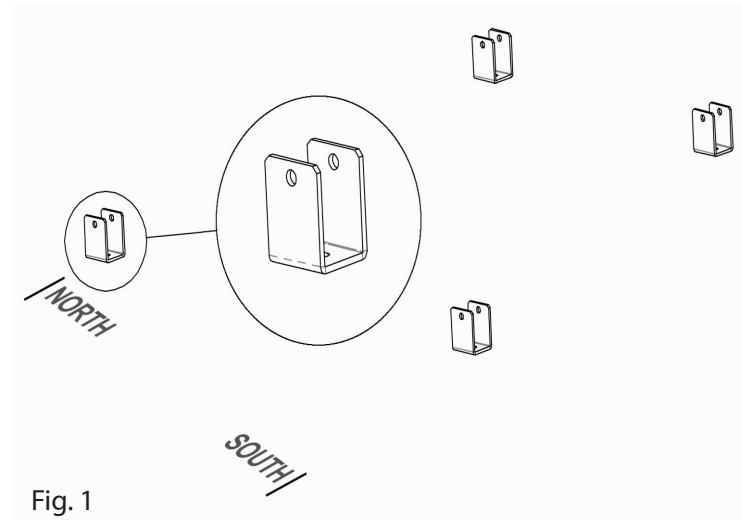

Fig. 1
1. Mount all U-Feet to the roof in the desired locations. Please note the orientation of both U-Feet in Figure 1.